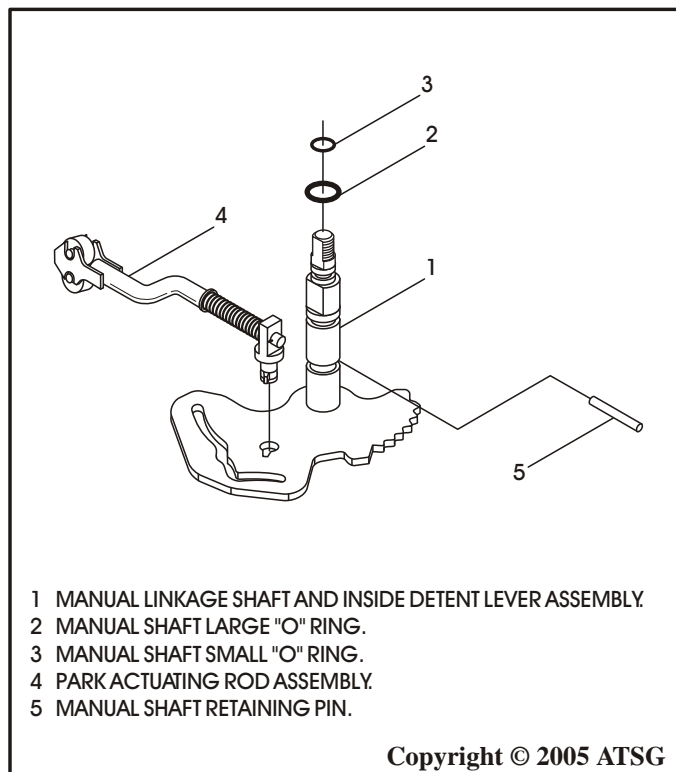

Figure 37
19. Remove and discard the two "O" ring seals on the manual shaft, as shown in Figure 37.